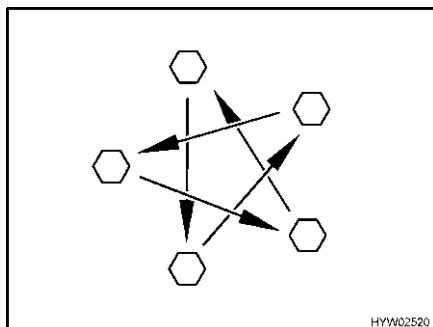

Fig. 195 Tighten the wheel nuts or wheel bolts cross-wise
- Check regularly that the wheel nuts or wheel bolts are firmly seated. Re-tighten the wheel nuts or wheel bolts of a changed wheel after 50 km (30 miles) (Fig. 195). See section 13.5.2 for tightening torque.
- When using new or newly painted wheel rims, re-tighten the wheel nuts or wheel bolts once again after approx. 1,000 to 5,000 km (600 miles to 3,000 miles) (Fig. 195).
- ▷ Tighten the wheel nuts or wheel bolts cross-wise (Fig. 195).